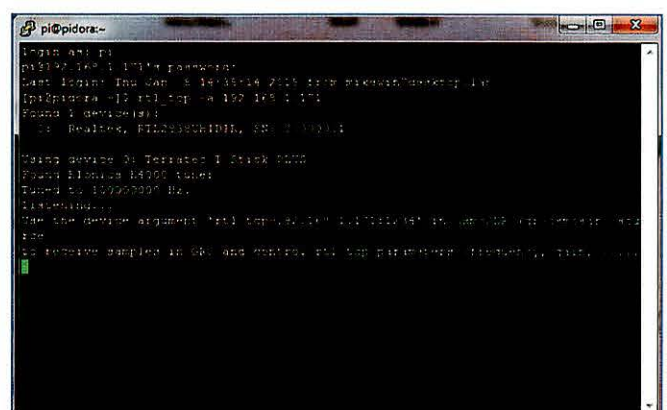

FIGURE 4: Remote access terminal showing the Pi ready to accept an SDR Sharp connection.
7. You should see a screen similar to Figure 4 showing that it has found the dongle and is waiting for a connection.